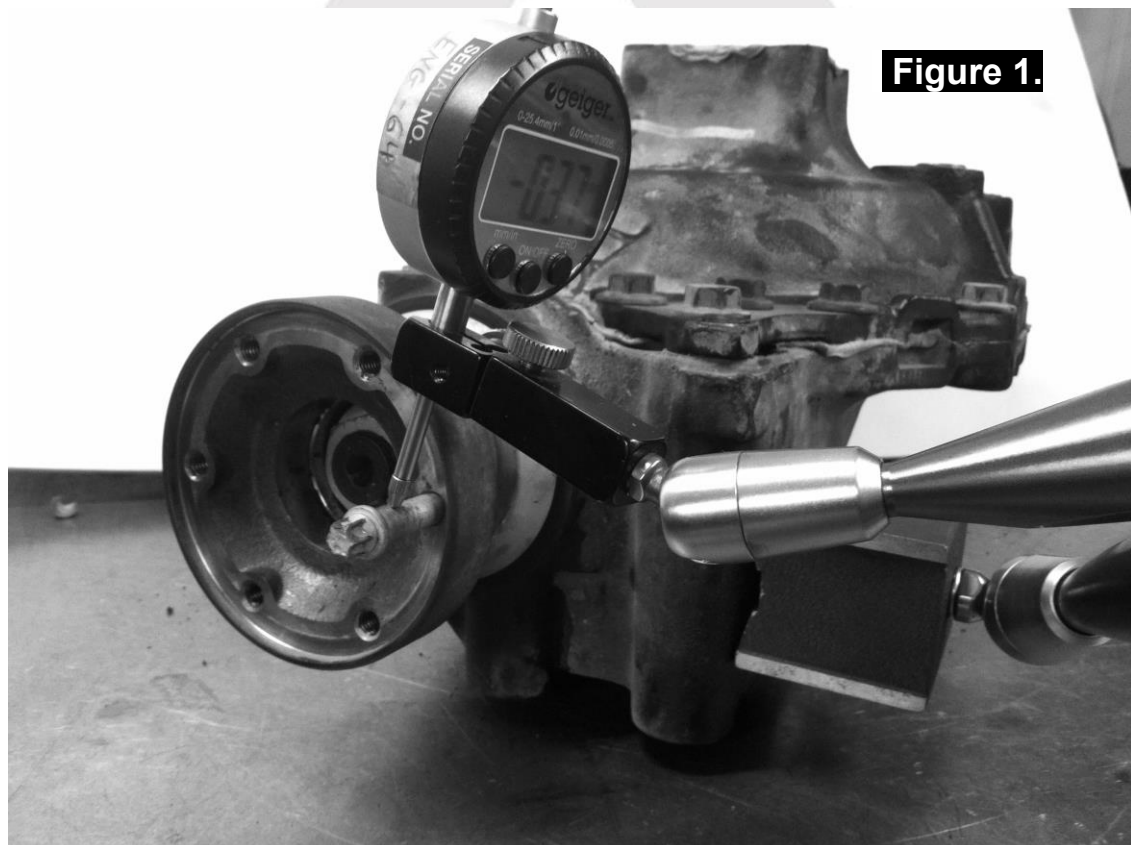

Figure 1.
- ☐ Screw a bolt into the flange to measure off, and set a dial indicator in place as shown. (Refer to Figure 1.)